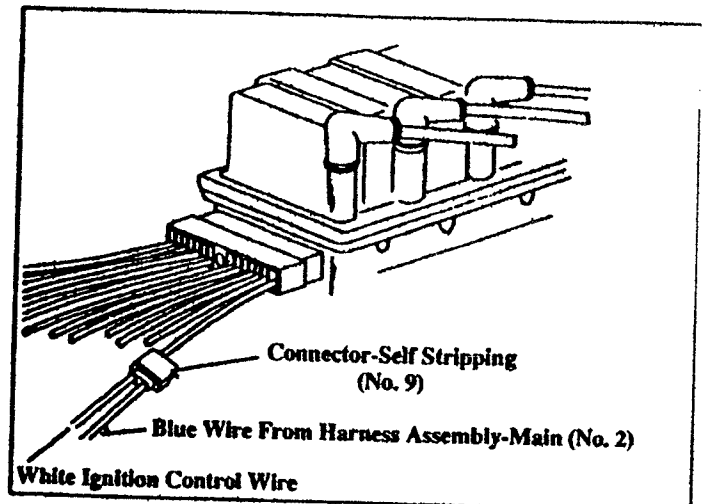

Figure 39
- C. On distributorless ignition systems, there is a tach signal wire located at the ignition control module. Consult a shop manual if necessary. Figure 39